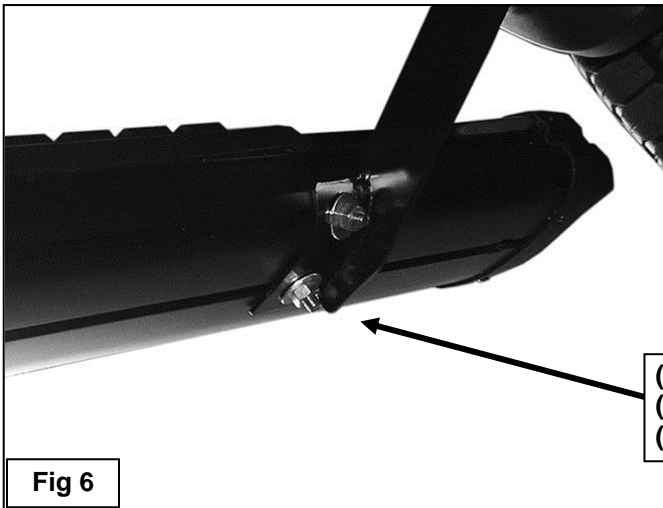

Fig 6
7. With assistance, carefully position the Cutlass onto the (3) Mounting Brackets. Lift the Cutlass up and slide the T-Bolts along the Cutlass to match up with the Brackets. **IMPORTANT:** Do not slide the Cutlass on the Brackets, (front to back or rotate), or the finish on the Cutlass may be damaged.
8. Line up the front of the Cutlass approximately 2" back, (or locate as desired), from the front wheel opening. Attach the Cutlass to the Mounting Brackets with (6) 8mm Flat Washers, (6) 8mm Lock Washers and (6) 8mm Hex Nuts, **(Figure 6)**. Do not tighten hardware at this time.